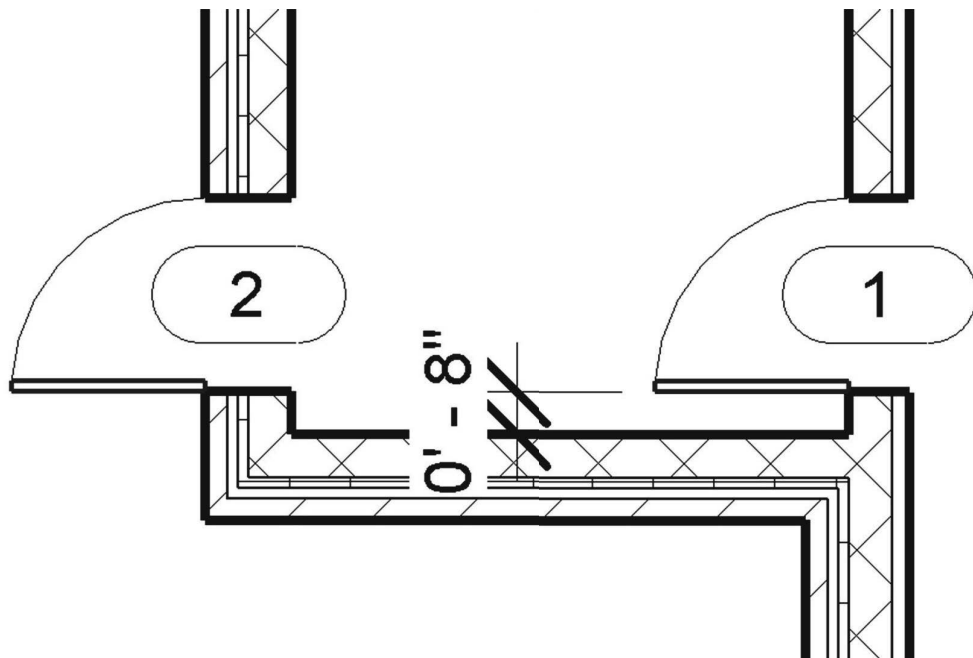

FIGURE 3-5.4 Doors in West stair shaft
8. Insert two doors in the West stair shaft as shown in Figure 3-5.4. Remember you are inserting a door into a masonry wall, so your door position and size need to work with masonry coursing, thus the 8" dimension (however, you would also need to include the door frame into the equation).